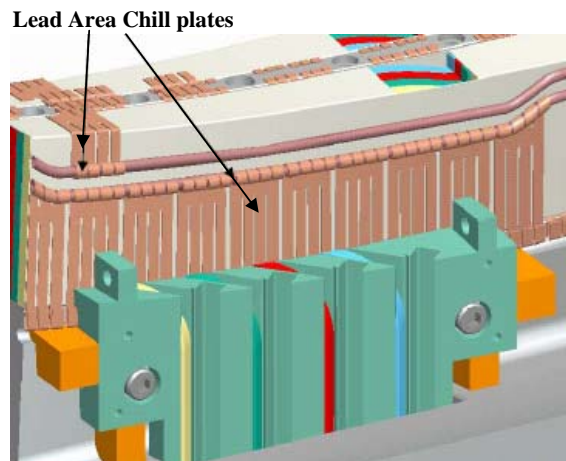

Figure 27- Chill Plates in Lead Area
- 6.33.1 Install the modified upper and lower chill plates and cooling tubes in the lead area on both sides "A" and "B". Use approved NCSX assembly drawings. See Figure 27- Chill Plates in Lead Area